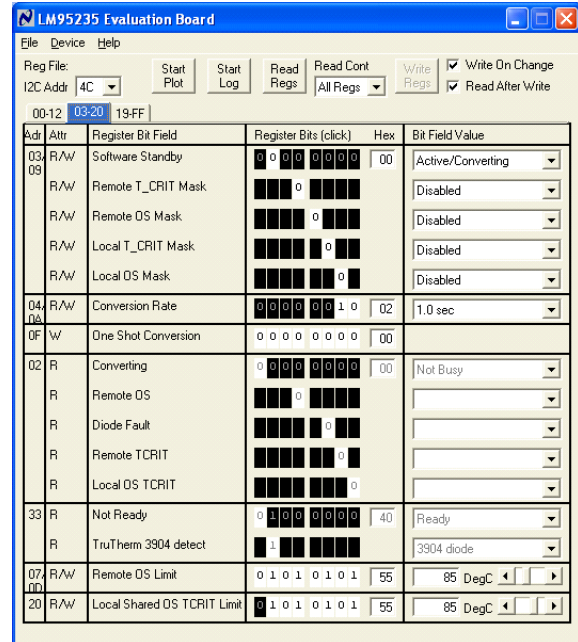
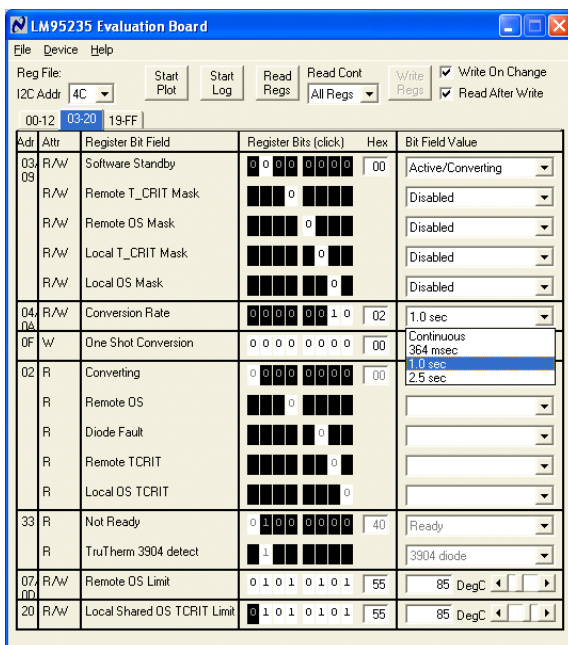
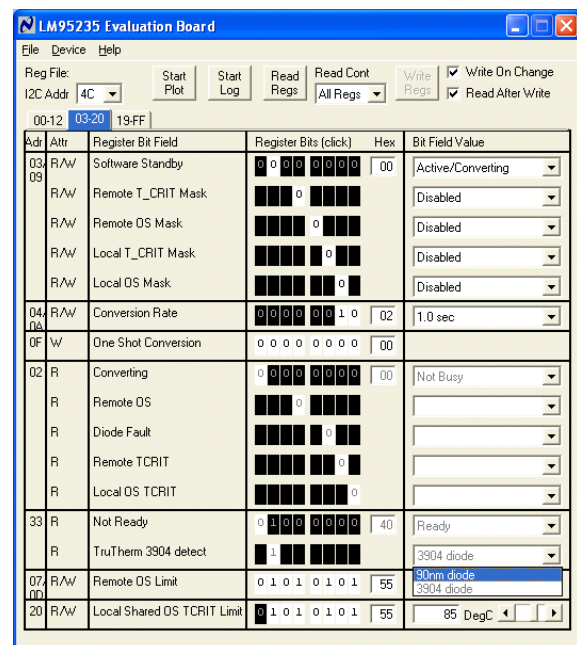

Figure 8
Figure 9
Figure 10
14. If the user clicks the 03-20 tab the next screen will look like Figure 8. By turning on or off the filters, and/or changing the models, and/or changing the TruTherm controls the user can experiment with the effects of the temperature readings as shown in Figure 9 and Figure 10 below.